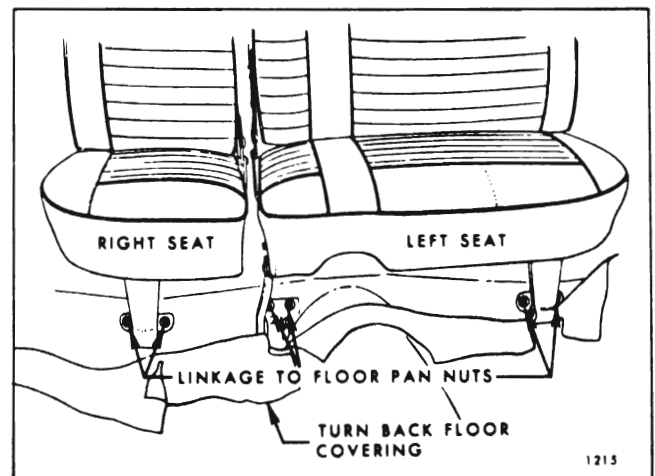

Fig. 15-70 —Folding Second Seat Front Linkage
2. Mark location of front linkage support on floor pan to facilitate installation in same position. Support front of seat. Remove bolts securing linkage to seat and nuts securing linkage to floor pan studs (see Fig. 15-70); then, remove front linkage.